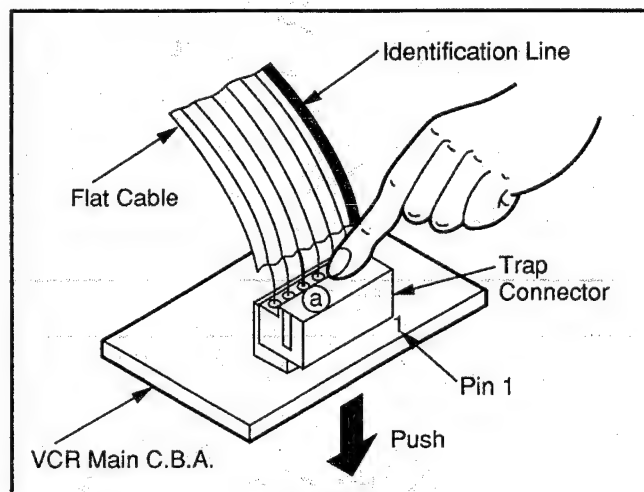

Fig. 6-4
- 1) Pull out the Flat Cable while pushing against the (a) portion of the Trap Connector in the direction indicated by arrow to unplug as shown in Fig. 6-4.